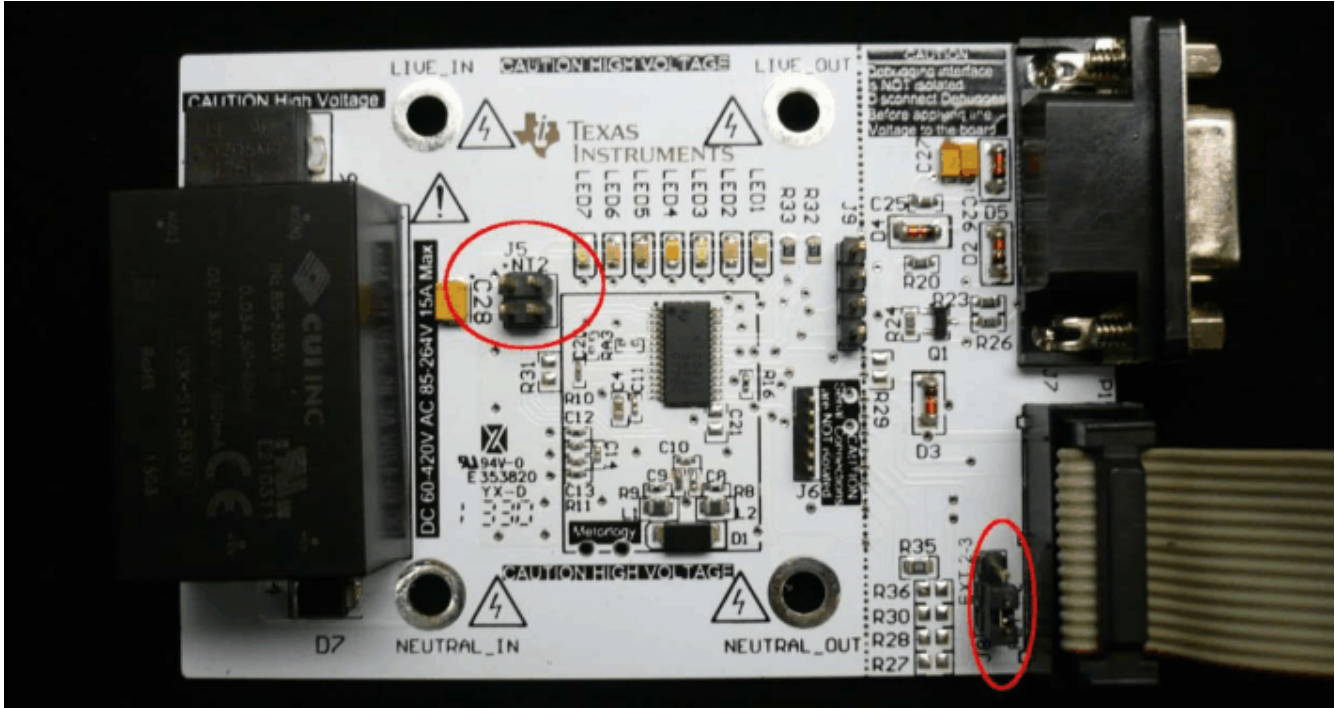

Figure 9-8. Connecting EVM and FET
- Make sure the jumper on J8 is short properly. Connect the 14 pin connector P1 to MSP-FET430UIF by a flat cable as shown in Figure 9-8.